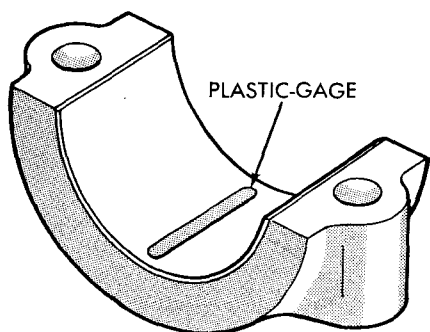
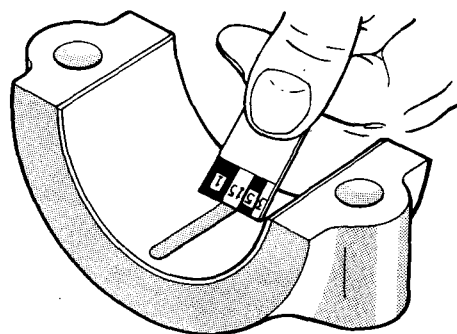

Fig. 36—Plastic Gage Placed in Lower Shell
Fig. 37—Clearance Measurement
(1) Wipe journal clean.
(2) Place a strip of Plastic Gage across full width of lower insert at the center of bearing cap (Fig. 36).
(3) Install bearing cap to connecting rod and tighten retaining nuts to 45 foot-pounds torque.
(4) Remove bearing cap and determine amount of clearance by measuring the width of the compressed Plastic Gage with the scale furnished (Fig. 37).
(5) New bearings should be installed if bearing clearance is not within specifications. Excessive taper indicates that a new or reground crankshaft is required.
(2) Remove main bearing cap and insert.
(3) Clean insert and exposed portion of crankshaft journal.
(4) Place strip of Plastic Gage across full width of bearing insert (Fig. 36).
(5) Install bearing cap and tighten bolts to 85 foot-pounds torque.
(6) Remove bearing cap and determine amount of clearance by measuring width of compressed Plastic Gage with furnished scale (Fig. 37).
(7) New bearings should be installed if bearing clearance is not within specifications. Excessive taper indicates that a new or reground crankshaft is required.